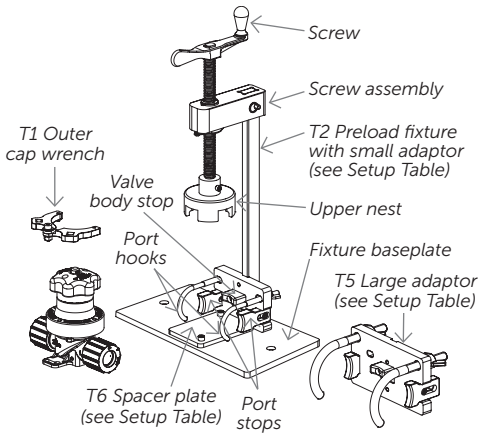

Figure 2.
2. For valves that can be removed from the line, mount the preload fixture (T2) into a vise or fasten to work bench. For valves that are installed in-line and cannot be removed, have one person hold the fixture while another operates the fixture and wrench in steps 3–6 (see Figure 2). Remove screw assembly from preload fixture (T2).